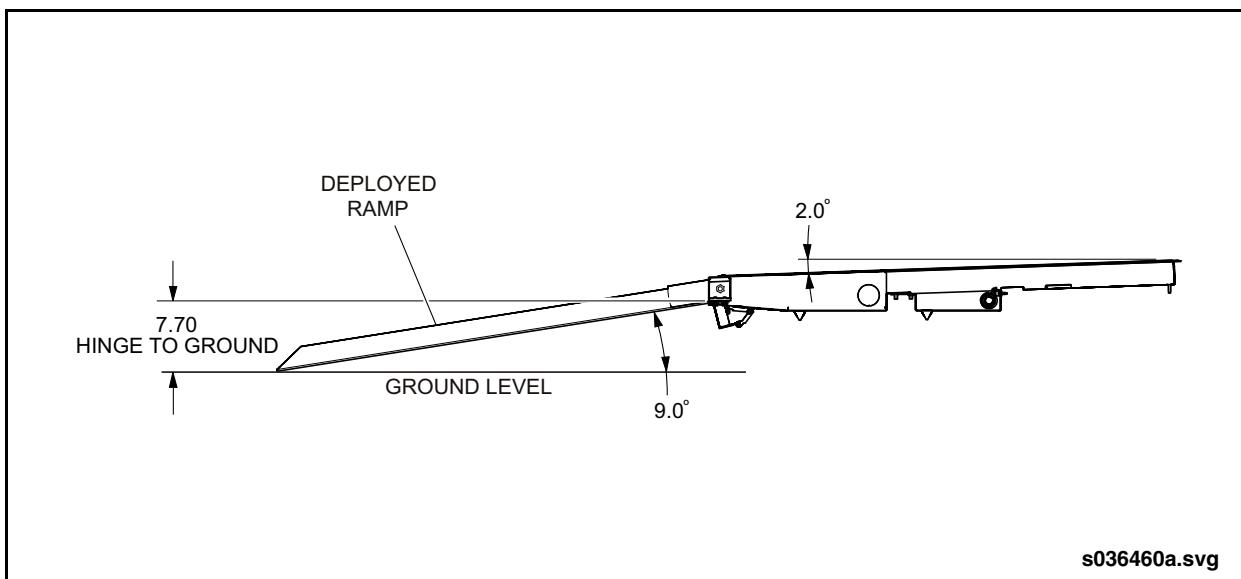

Fig. 20-14: Pivot Plate Alignment
6. Position the pivot plate at a downward angle of approximately 9° to represent the ramp plate in the deployed position when connecting the chains. See “Fig. 20-14: Pivot Plate Alignment” on page 21.